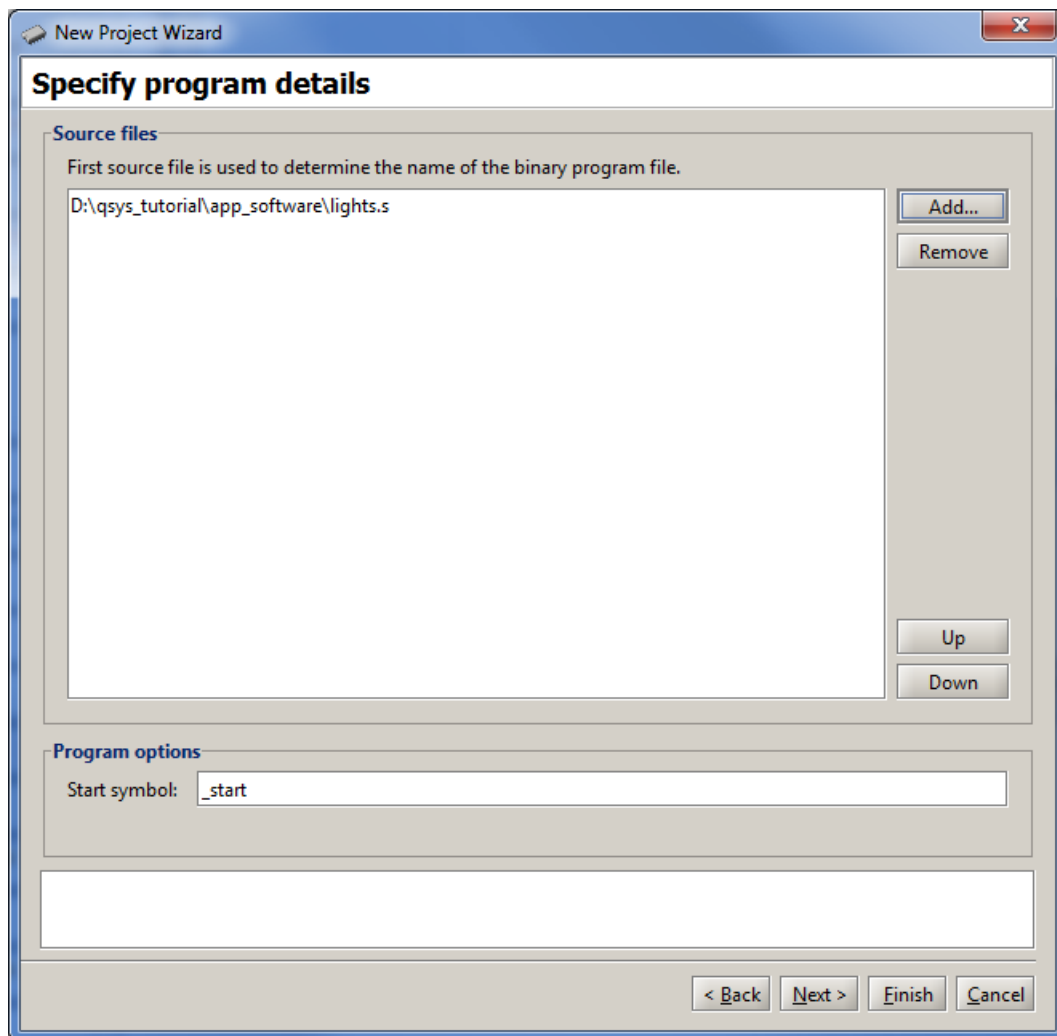

Figure 30. Specify the application program to use.
4. If you wish to use a Nios II assembly-language application program, select **Assembly Program** as the program type from the drop-down menu. If you wish to use a C-language program, select **C Program**. Click **Next**, leading to Figure 30.
5. Click **Add...** to display a file selection window and choose the *lights.s* file, or *lights.c* for a C program, and click **Select**. We placed the application-software files in the directory *qsys_tutorial\app_software*. Upon returning to the window in Figure 30, click **Next**.